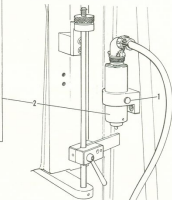

Figure 14. Cleaning transducer on plateau controls
37. CLEANING TRANSDUCER ON PLATEAU CONTROLS (2-1) (figure 14).